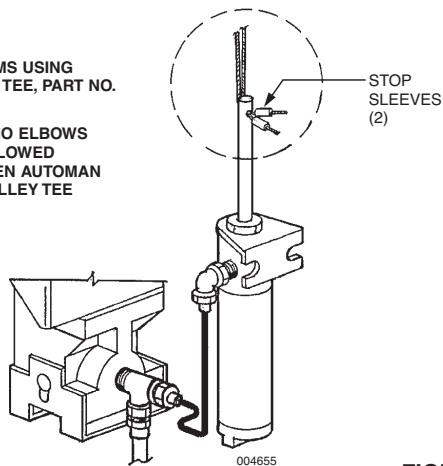

FIGURE 60
► **Note:** Two air cylinders are necessary only if the old style pulley tee, Part No. 15342, is utilized. If new style pulley tee, Part No. 427929, is utilized, only one air cylinder is required. Individual wire ropes can be run from each gas valve to a single air cylinder. See Figure 60.
- Wrench tighten. See Figure 60.